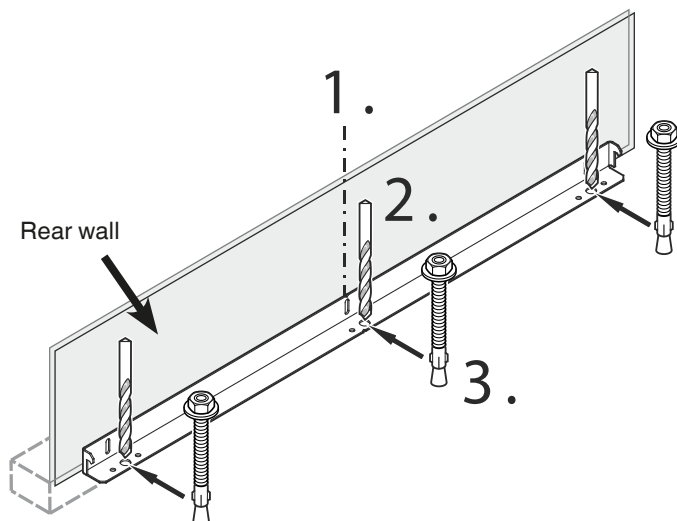

Figure 4
## Mounting the anti-tipping device on concrete floors - figure 4 - 5
2. Drill 10 mm diameter holes in the positions shown in **figure 4** using a carbide drill bit. The depth of the holes must exceed the overall length of the anchors. Clean the holes after drilling.